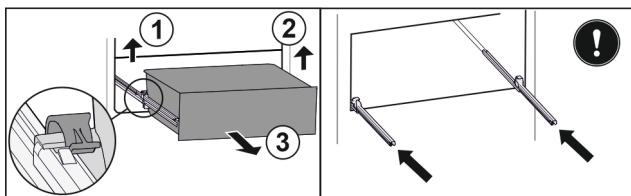

Fig. 115
- Lift left clamp and simultaneously pull drawer forwards on the left. Fig. 115 (1)
- Lift right clamp and simultaneously pull drawer forwards on the right. Fig. 115 (2)
- Remove drawer to the front. Fig. 115 (3)